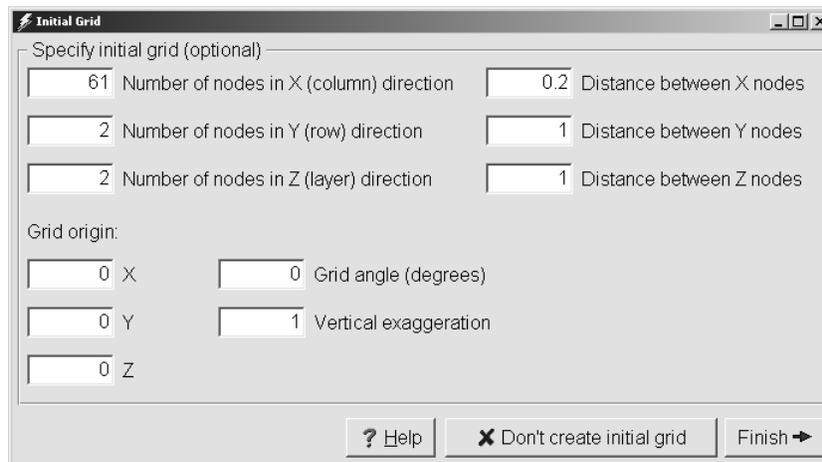
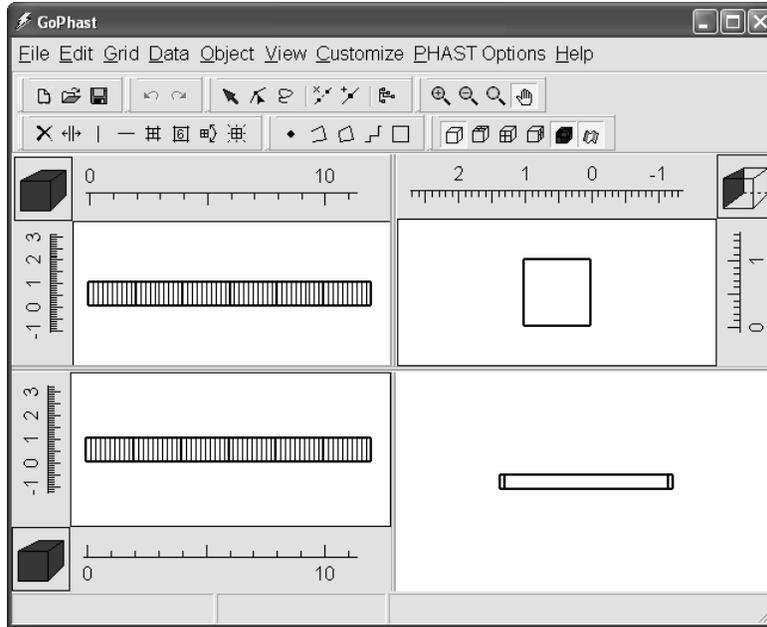

Figure 28. Initial Grid dialog box.
Figure 29. Initial appearance of GoPhast main window in Example 1.
2. The **Initial Grid** dialog box will appear. Fill it in as illustrated in figure 28 and click the **Finish** button. This will create the grid illustrated in the GoPhast main window (fig. 29).